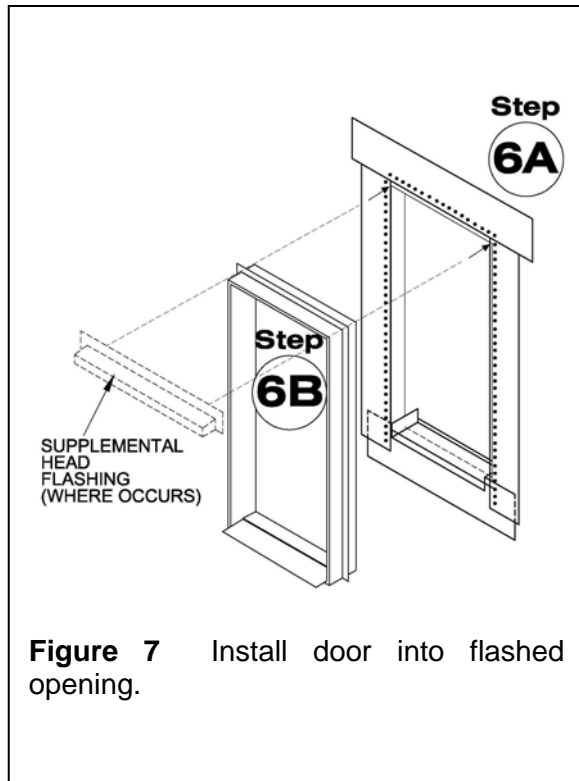

Figure 7 Install door into flashed opening.
Step 6. Install door in opening (see Figure 7).